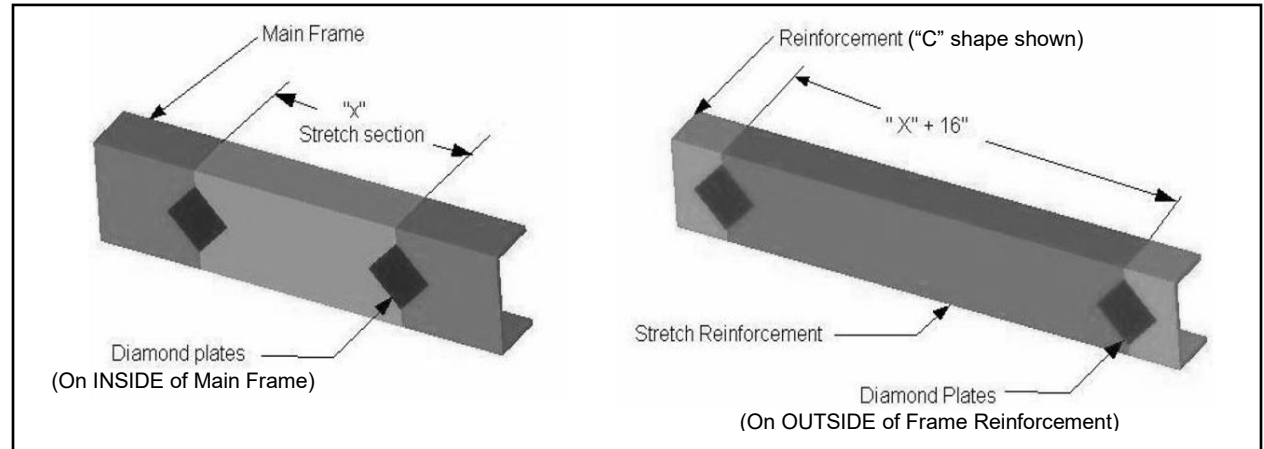

Figure 35 – Added "Fishplates" to Frame and Frame Reinforcement
- Weld a "fishplate" made from the same strength and thickness material as the reinforcement over the exposed vertical welds on the outside of the reinforcement. Weld a "fishplate" made from the same strength and thickness material as the main frame over the exposed vertical welds on the inside of the main frame. Use an appropriately sized diamond shape for the "fishplates". See Figure 35.